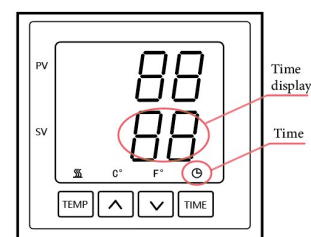

Fig 5
6. Spread the product to be heat pressed on the "High-Temp Sponge" and cover it with the pattern prepared material. press the handle down until fully closed. The timing light flashes and the time countdown begins (as shown in Figure 5).When the countdown is over, the timing of The lamp is out, the buzzer issued. when the rapid "Didi" sound, indicating that the hot painting has been completed,and Lift the handle up as soon as possible.